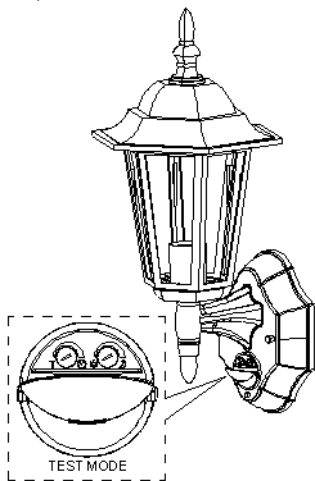

FIGURE 14
(2) TEST MODE
- Turn the LUX control and the TIME control anti-clockwise to the edge – the TEST position. (FIGURE 14)